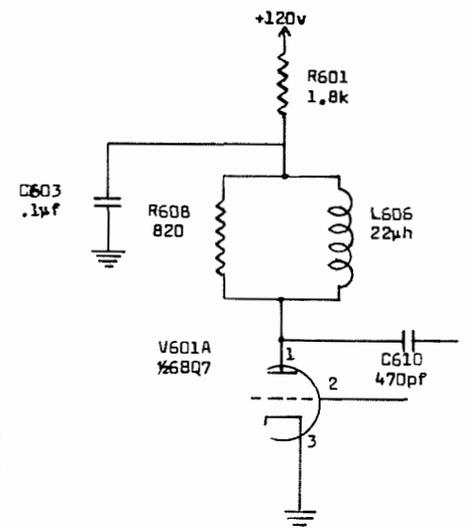

Figure 3. Type 524D/524AD Time-Mark Generator for serial numbers 1842 and below (partial schematic).
2. Refer to Figure 3. Decouple the 120 v plate supply of V601A by adding a 1.8 k, 1 w, 10% composition resistor (Tek no. 304-182) and a 0.1 μ f, 500 v discap (Tek no. 283-008) as shown in Figure 3.